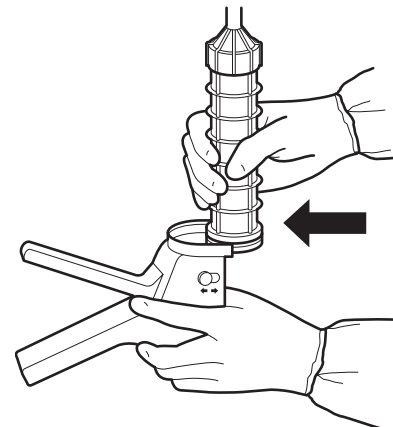

Figure 3
3. Place a filled cartridge with an application nozzle into the cartridge interface (Figure 3). Holding the cement gun in a vertical position, squeeze the trigger to fill the application nozzle until the bone cement reaches the tip. The cement gun is now ready for bone cement delivery.